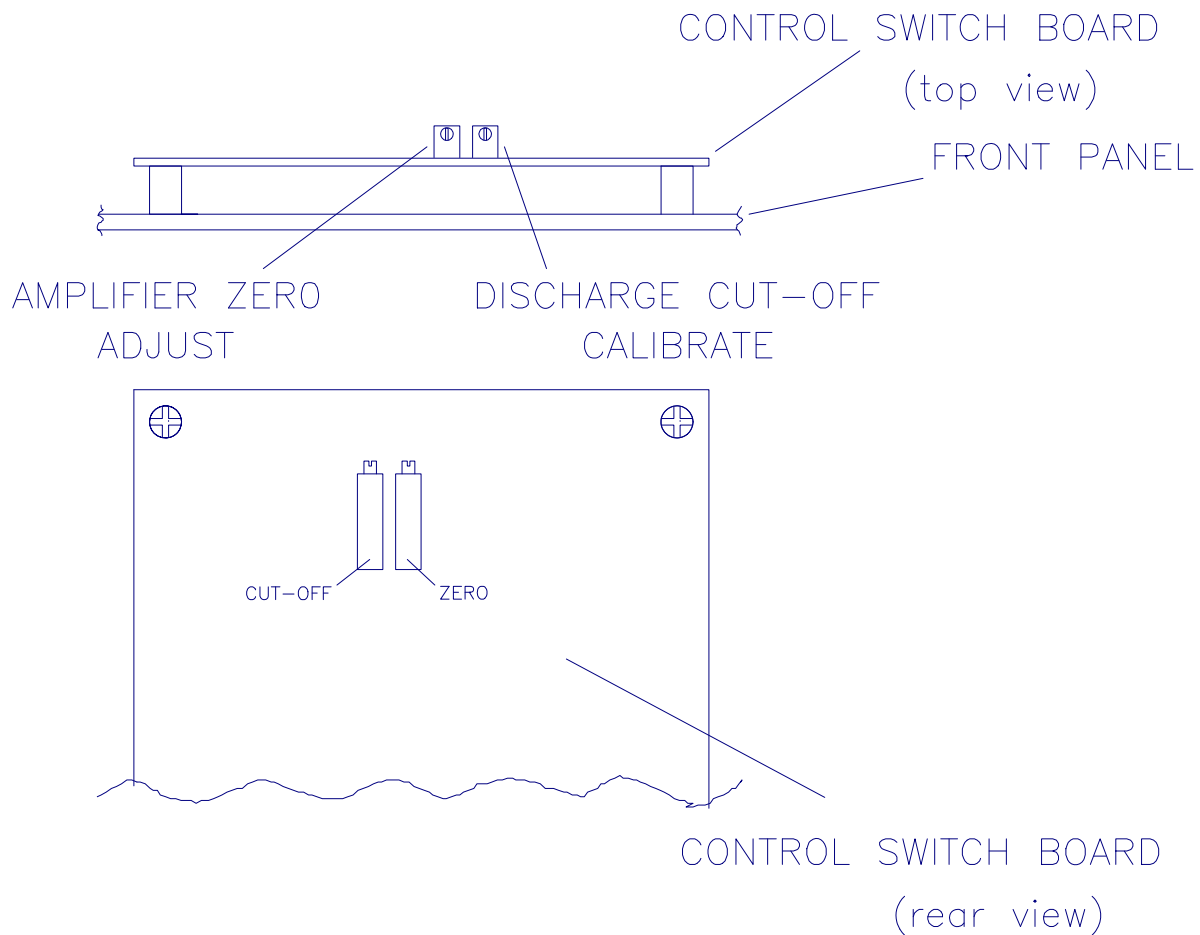

Figure 8 - Control Switch Board Adjustments
10.2.3. CONTROL SWITCH (see fig 8).